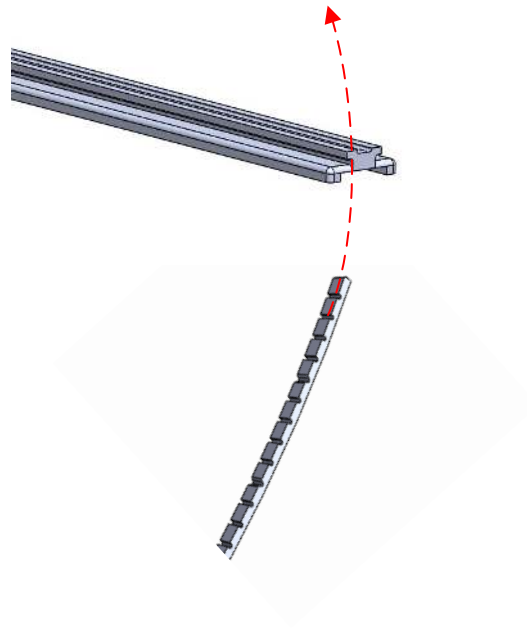

Figure 3-14. Protractor Installation
- 6. Optional: Insert the Protractor on to the Track from bottom as shown in Figure 3-14.